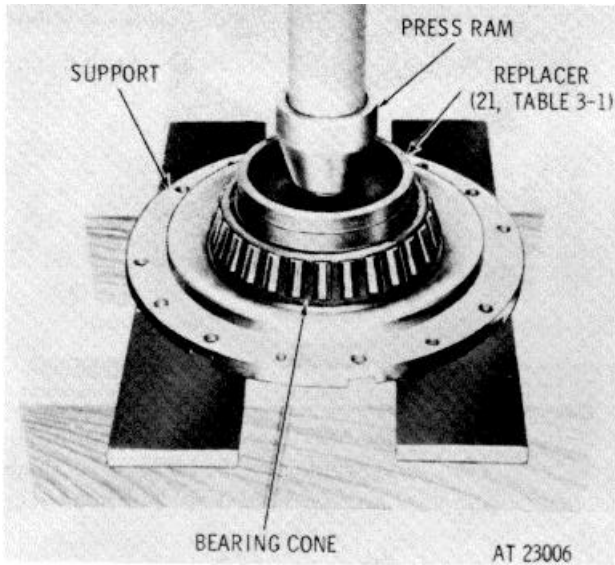

Figure 7-25. Installing bearing inner race onto pinion bearing support
c. If inner race of bearing assembly (36, FO-5) was removed, install a new race into the opposite side of bevel drive gear (44). Press the race until it is firmly seated in the gear.
d. Using replacer (21, table 3-1), install the bearing inner race into the bevel pinion bearing support. Press the race until firmly seated on the support (fig. 7-25).